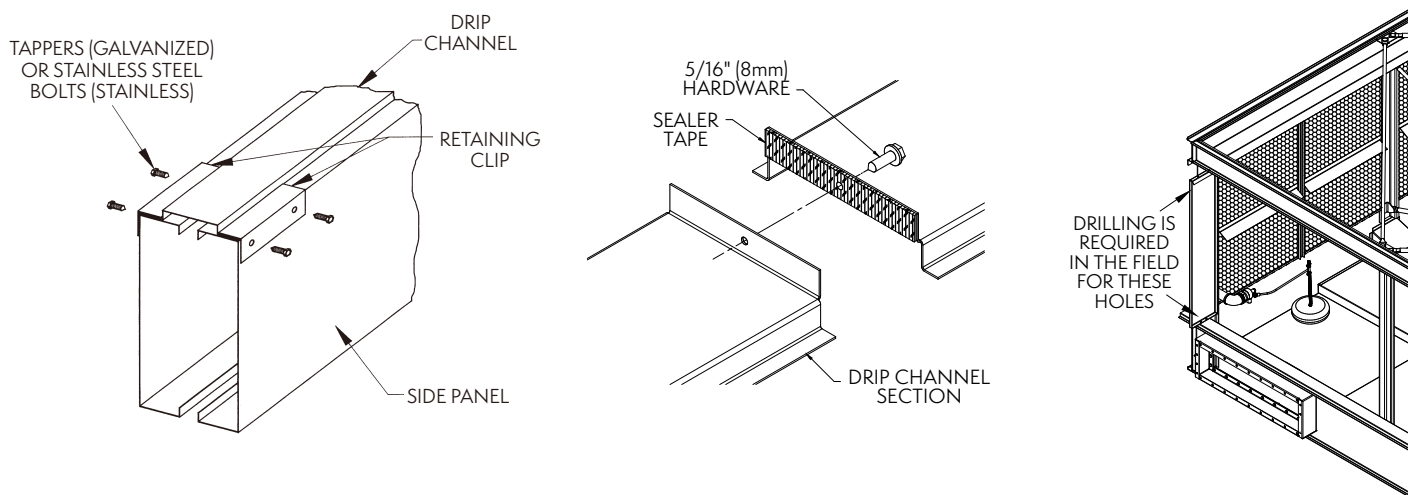

Figure 3a — Drip Channel and Vertical Splash Guard Installation
2. Apply a single layer of sealer tape to the mating flange of the drip channels (see **Figure 3a**). Fasten drip channels together end-to-end by driving a self-tapping 5/16" (8mm) screw through the section end with the larger hole into the mating end with the smaller hole. Stainless steel units will use 5/16" (8mm) stainless steel nuts and bolts.